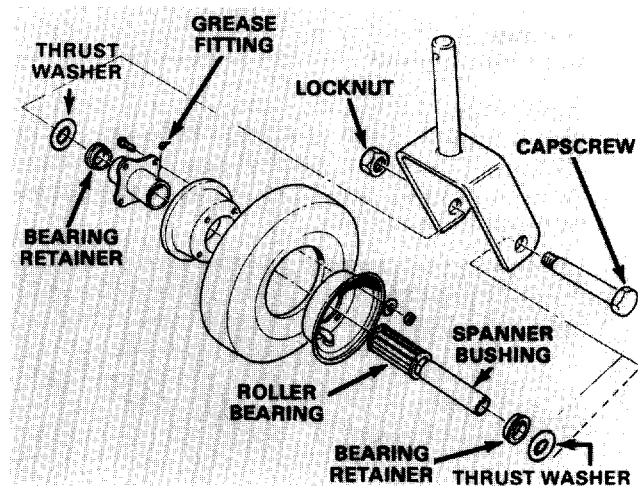

Figure 24
1. Remove locknut from capscrew holding castor wheel assembly between castor fork (Fig. 24). grasp castor wheel and slide capscrew out of fork.
Note: Account for the two thrust washers (Fig. 24).
2. Tip wheel to the side and allow spanner bushing to fall out (Fig. 24).